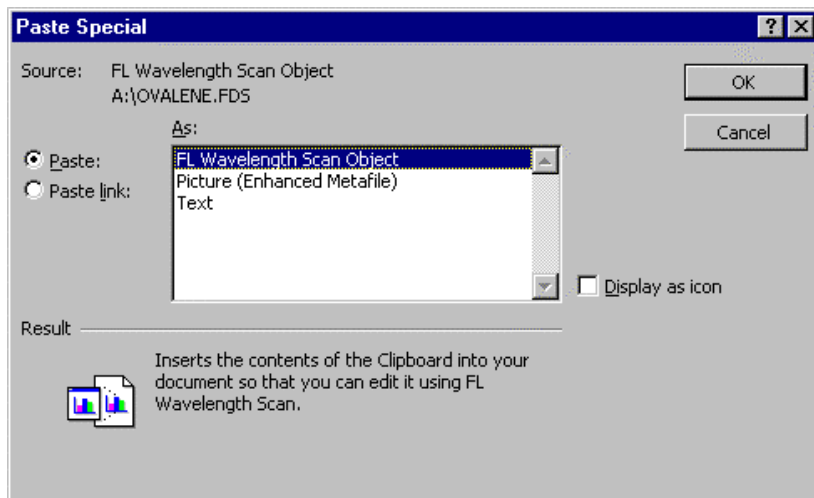

Fig. 6-31
6.14 Pasting of Spectra to Microsoft(R) Word
For pasting a spectrum to the Microsoft(R) Excel, specify "Paste Special." The dialog box in Fig. 6-31 will appear.